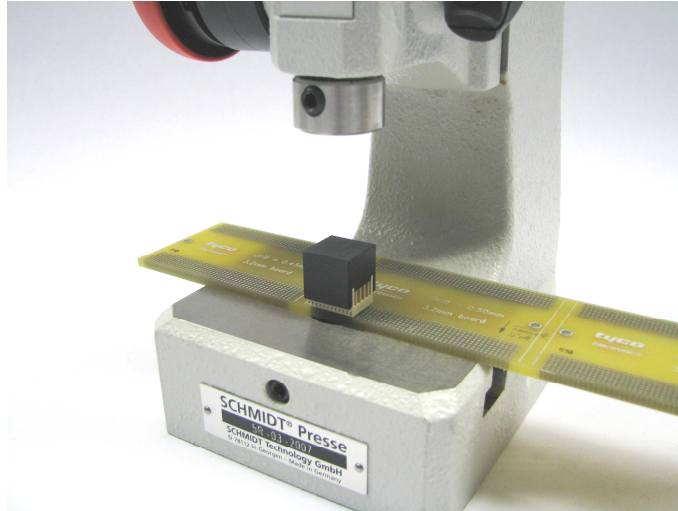

Figure 7
3. Now the pc-board with the male connector and insertion block is placed under the stamp of the press (see figure 7).